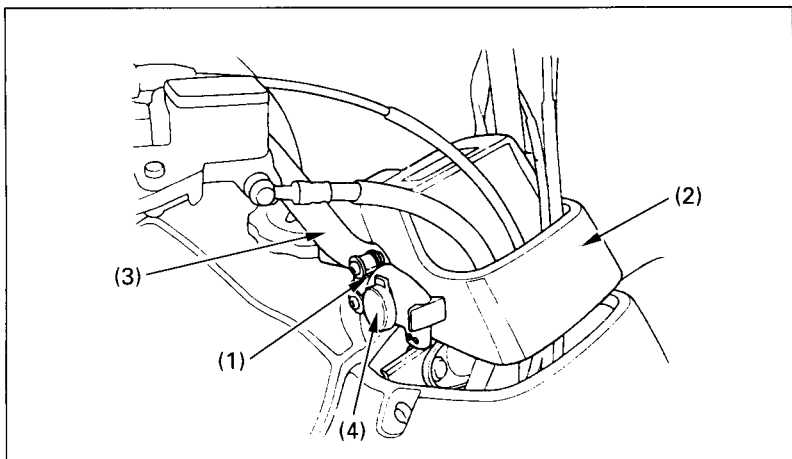

Fig. 2-29 (1) 12 V DC receptacle (3) Right handlebar
The DC receptacle (1) (Fig. 2-29) is attached to the right handlebar, near the handlebar cover (2). The receptacle provides 12 V DC power at a maximum of 180 watts (15 amps). If you exceed this limit, you may blow the fuse. (For information on fuses, and how to replace a fuse, see pages 121 – 122).
(2) Handlebar cover (4) Special DC plug
Electrical accessories may be connected to the receptacle by using the special DC plug (4) (Fig. 2-29) that comes attached to the receptacle. Be sure to use only accessories that are designed for 12 V DC power.
1. Remove the plug (4) from the receptacle (1) (Fig. 2-29).